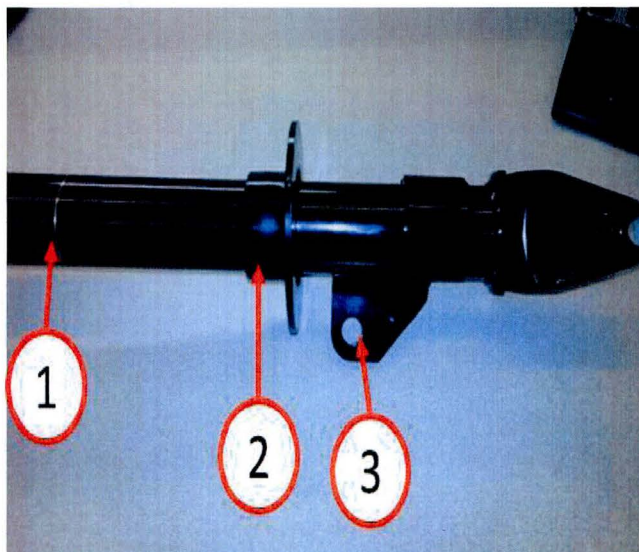

Fig. 1 Spring Seat Incorrectly Seated
1. Inspect the right and left front shock absorber. Was the front right or left shock absorber spring seat incorrectly seated (2) as shown in (Fig. 1).